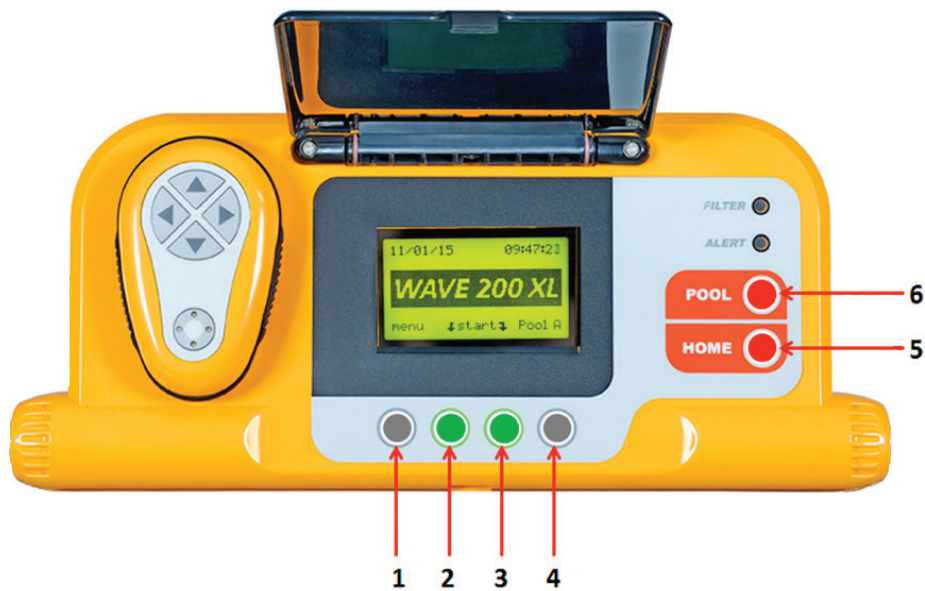

Figure 4: MMI Console
- In this user manual, the term **Press Start** means to simultaneously press both green buttons on the MMI console (marked **2** and **3** in the Figure 4).
- The MMI is equipped with a screensaver that is displayed after 5 minutes of idle time. Press the **POOL** and **HOME** buttons (marked **5** and **6** in Figure 4) to exit the screensaver mode.
- Some options in the MMI (pool profile setup) menus are blocked with a code to prevent changing the setting accidentally. The code sequence for unblocking these options is: **3**, **2**, and **1** (Figure 4).
- **Alert:** This Alert LED lights up to indicate an error that stops the robot from functioning. In such cases, inspect the robot to locate the problem and if it can be fixed, start the robot again. If the error repeats itself, then details of the specific error are displayed on the MMI screen (Figure 4). If this occurs, contact your Maytronics dealer immediately.
2. Wait for the Wave 200 XL screens to appear. Press **Start** (press both green buttons, marked **2** and **3**, in Figure 4, simultaneously). The cleaning session begins.
3. To stop the cleaning session at any time, press the right grey button, marked **4**, in Figure 4.